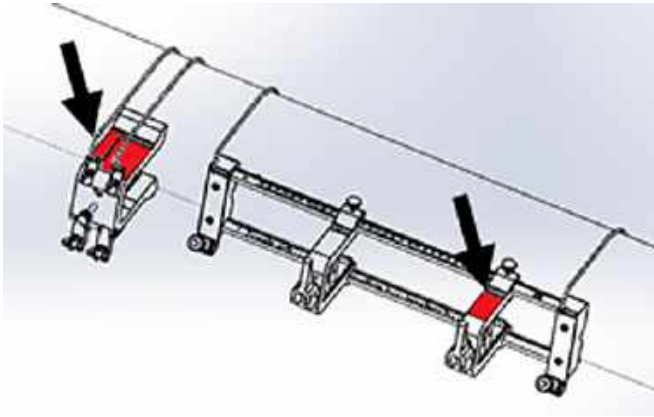

Figure 38: Yoke rotated into horizontal position
4. Rotate the yoke until it is located in a horizontal position on the same side of the pipe as the previously installed clamping fixture, as shown in *Figure 38* below.
5. Ensure that the top surfaces of the yoke bracket and the fixed clamping fixture bracket lie precisely in the same horizontal plane (see *Figure 38* above).